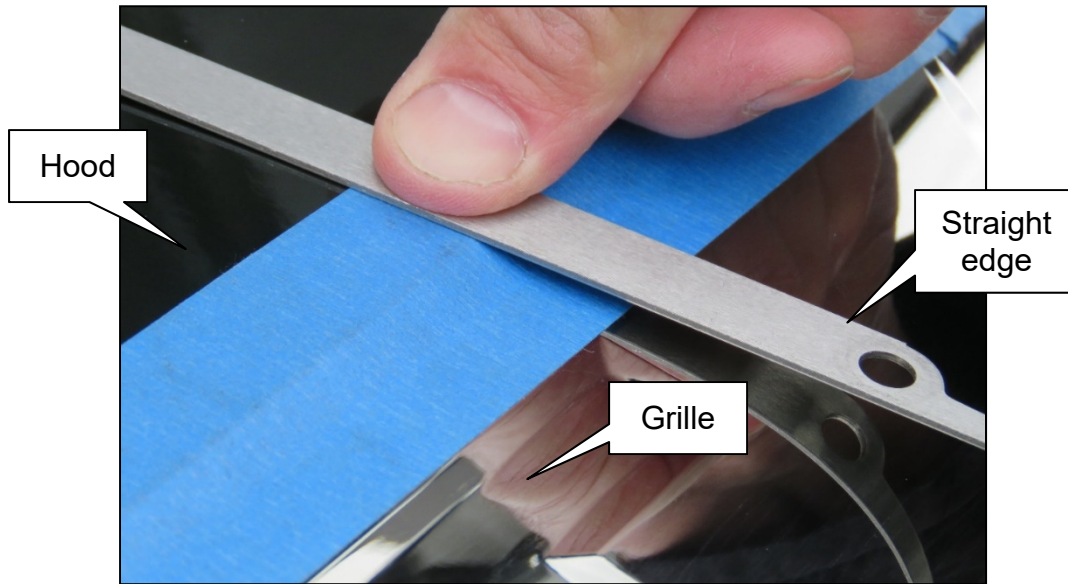

Figure 4
a. Place a straight edge near the center of the grille as shown in Figure 4.
b. In Figure 4, the hood is over flush with the grille. In this situation, apply finger pressure on the straight edge near the front edge of the hood as shown. If the hood is under flush with the grille, apply finger pressure on the straight edge near the rear edge of the grille.